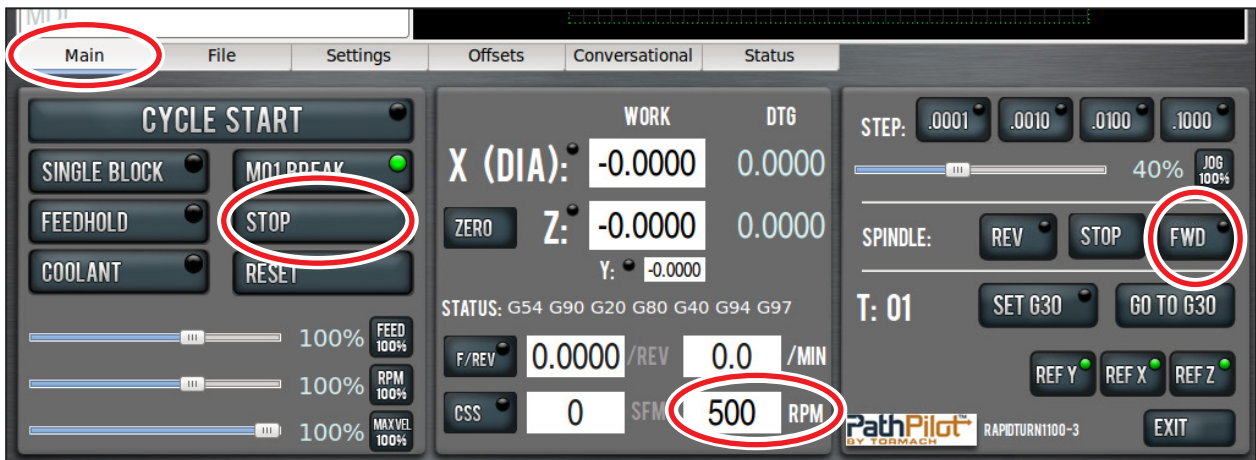

Figure 4.14
4. Click the *Main* tab (see **Figure 4.14**).
7. Adjust spindle speed to 500 RPMs – enter 500 in the *RPM* DRO and click *FWD* (see **Figure 4.14**), or type G97 M03 S500 in the MDI line.
10. Stop the spindle – click *Stop* (see **Figure 4.14**), or type M05 in the MDI line.